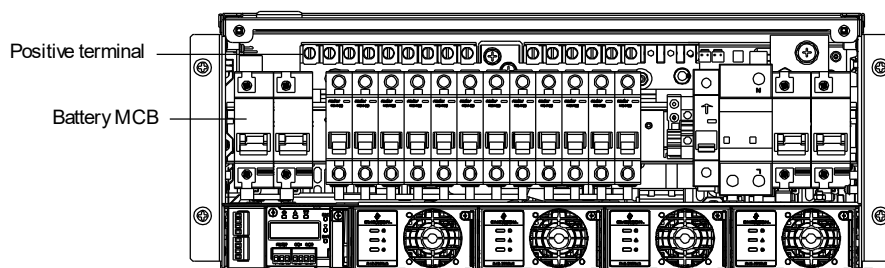

Figure 2-9 Illustration of the battery connection terminal
2. Connect copper lugs to the other end of the battery cables. Bind the connecting parts with insulating tape, and put them beside the battery. Connect the cables to the battery when the DC distribution unit is to be tested. As shown in Figure 2-9.